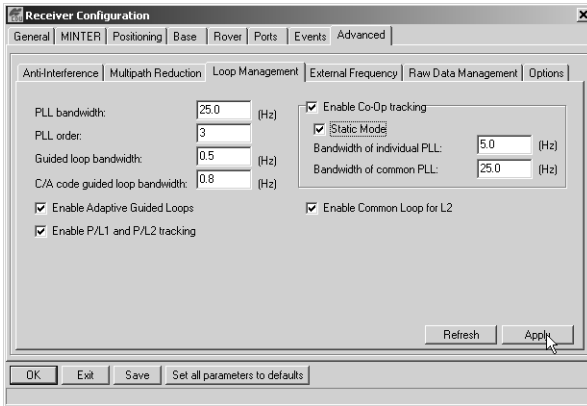

Figure 2-11. Advanced Configuration – Loop Management
6. Click the **Loop Management** tab, enable the following boxes, and click **Apply** (Figure 2-11).